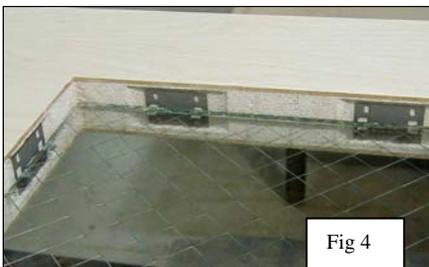

Fig 4
5. After installing the rectangular half of all of the clips in all of the pockets, position the glazing in the opening, resting it against the clip tabs (Fig 4).